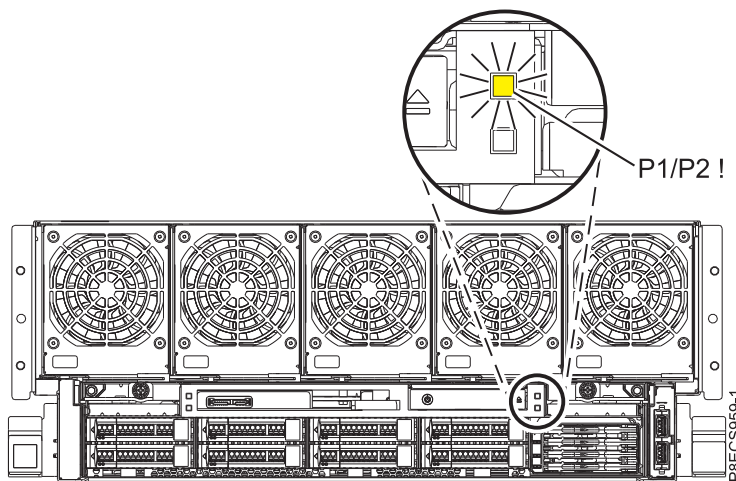

Figure 2. Front **P1/P2 !** fault roll-up LED on the 8408-44E or 8408-E8E system.
8. Note the state of the **P1/P2 !** fault roll-up LED, which is located on the front of your 8408-44E or 8408-E8E system as shown in Figure 2.